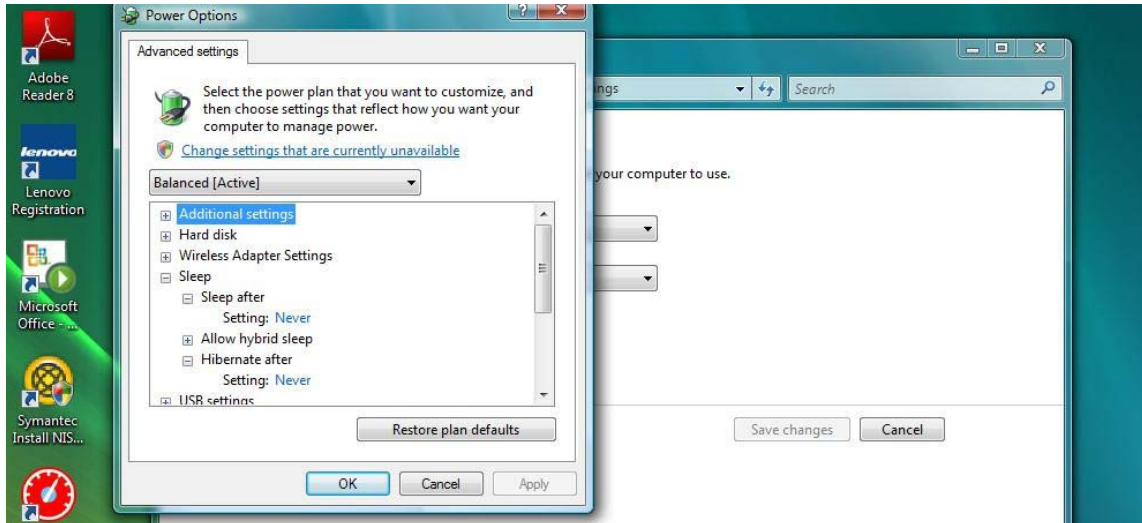

FIG. 50
5. Find "Sleep" in the scroll list (FIG. 50). Change the "Sleep after" setting to NEVER and the "Hibernate after" setting to NEVER.
6. Click the Apply button to save these changes. Then click the OK button (FIG. 50).